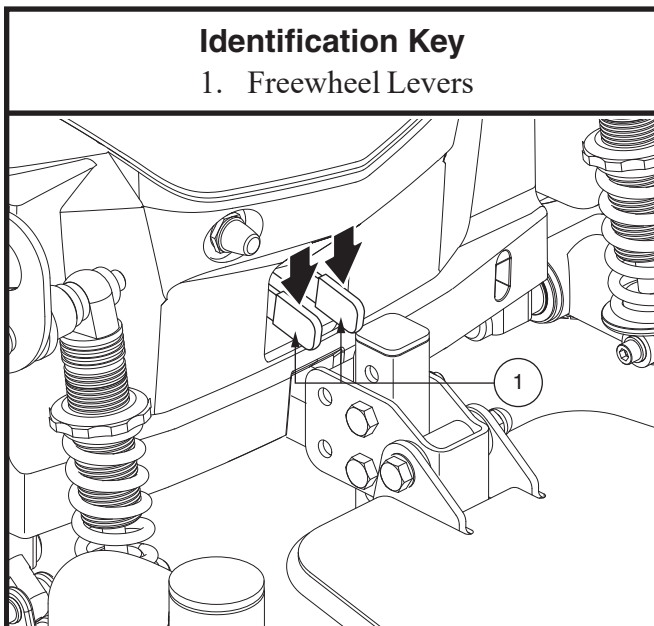

Figure 4. Drive Mode (Drive Engaged)
2. Push the two levers downward to engage the drive motors (drive mode). See figure 4.
2. Ensure the power chair is in drive mode. See figure 4.